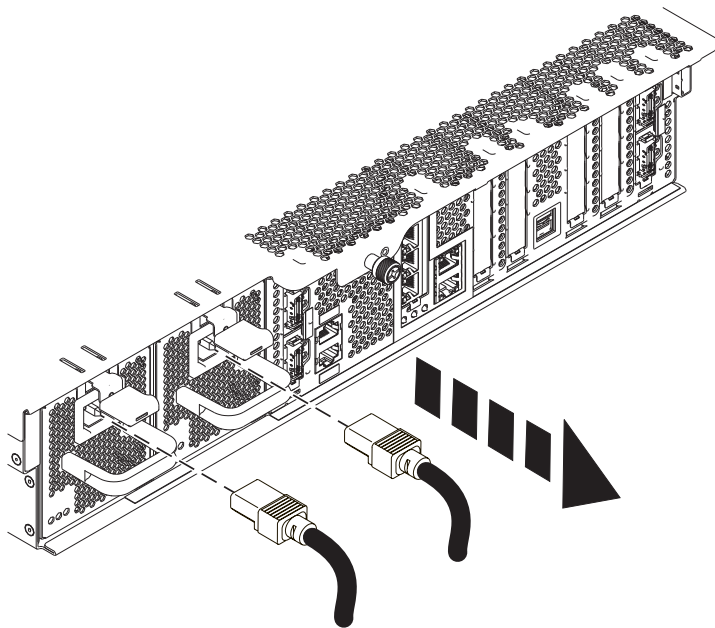

Figure 1. Removing power cords
- c. Disconnect all power cords from the unit you are servicing. See Figure 1.